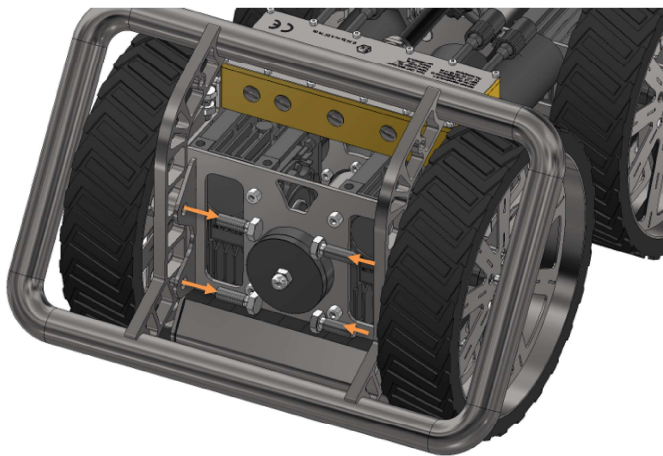

Figure 44 Detaching guard bracket
2. Remove the guard bracket by unscrewing the four bolts. As shown in Figure 44.